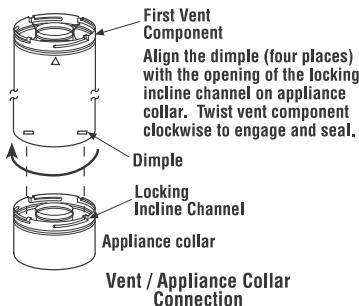

Figure 20
B. Attach vent components to appliance - **Secure Vent** SV4.5 direct vent system components are unitized concentric pipe components featuring positive twist lock connections (see *Figure 20*).
To attach a vent component to the appliance collar, align the dimpled end over the collar, adjusting the radial alignment until the four locking dimples are aligned with the inlet of the four inclined channels on the collar (refer to *Figure 20*). Push the vent component against the collar until it fully engages, then twist the component clockwise, running the dimples down and along the incline channels until they seat at the end of the channels.
D. Attach vent components to appliance - To attach a vent component to the appliance collar, align the dimpled end over the collar, adjusting the radial alignment until the four locking dimples are aligned with the inlets of the four incline channels on the collar (refer to **Figure 20 on page 15**).